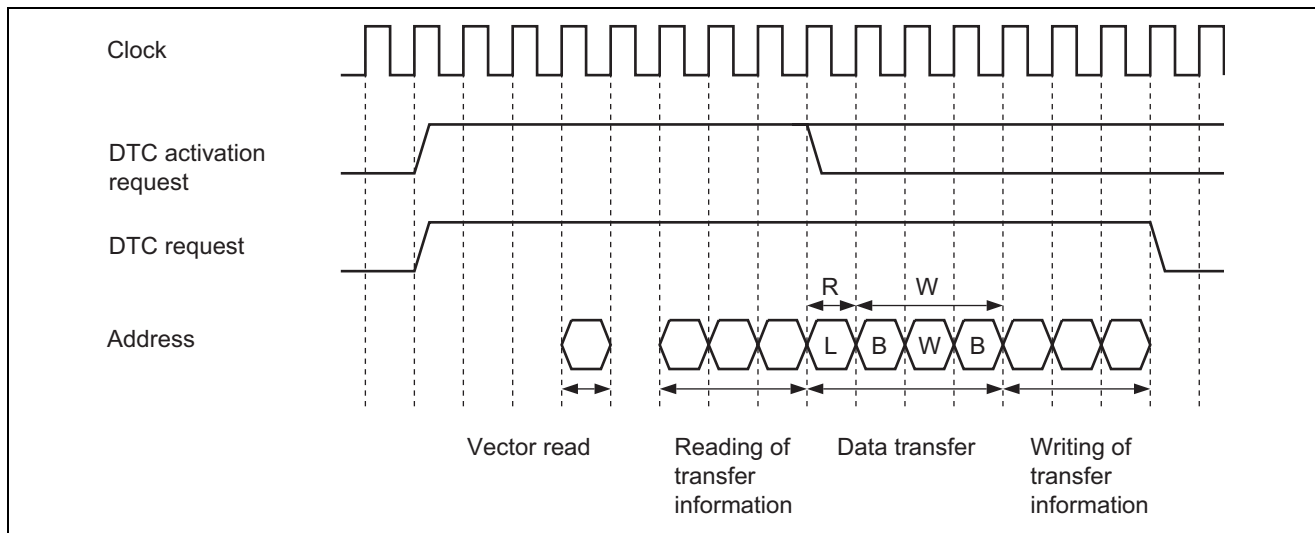

Figure 4 Example of Timing for Data Transfer to an Odd Address
Figure 4 is a timing chart for data transfer to an odd address. Data in on-chip ROM allocated to an address aligned with a longword boundary are read in one cycle of longword (L) access, and then written to an odd address in on-chip RAM in a total of three cycles, for byte (B), word (W), and byte (B) access.